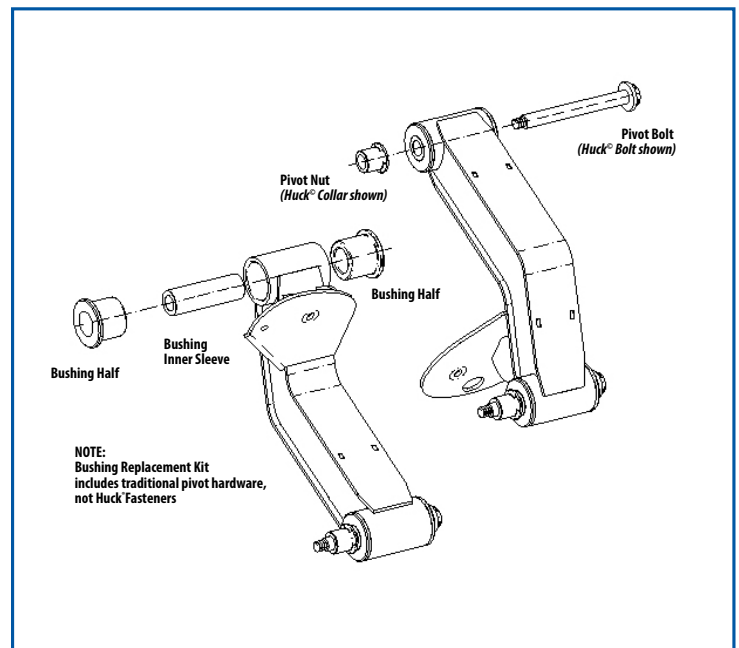

Figure 6. Bushing replacement kit with hardware includes pivot bolt, pivot nut and replacement components for eight (8) pivot connections.
Bushings should be replaced in the eight (8) pivot connections at the same time (Figure 6).